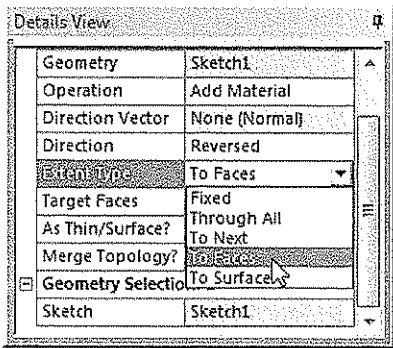

Figure 5-71 Selecting the To Faces option from the Extent Type drop-down list
17. In the **Extent Type** drop-down list, select the **To Faces** option, as shown in Figure 5-71; you are prompted to select the face for extent. Also, the **Target Faces** selection box is displayed in yellow in the **Details View** window.